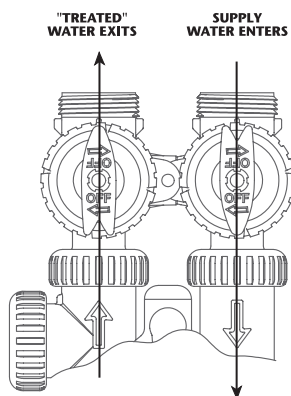

FIGURE 1
1. **NORMAL OPERATION POSITION:** The inlet and outlet handles point in the direction of flow indicated by the engraved arrows on the control valve. Water flows through the control valve for normal operation of a water softener. During the regeneration cycle this position provides regeneration water to the unit, while also providing untreated water to the distribution system (**Fig. 1**).
6. Place bypass valve in the normal operating mode (**Fig. 1 on page 4**) by opening the outlet bypass handle. Press **REGEN** and the unit will return to the service position with time of day being displayed.